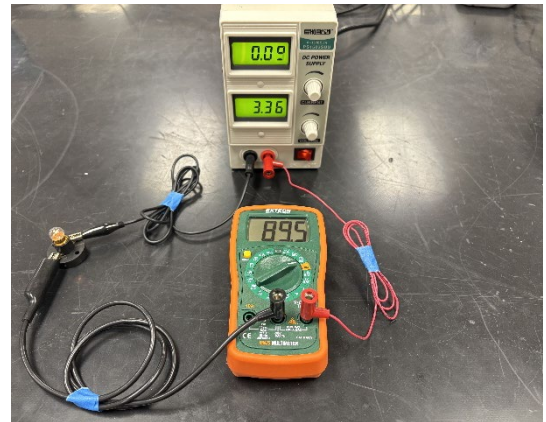
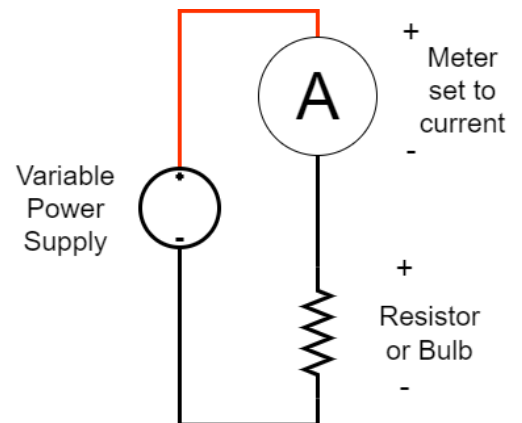

Figure 5: Power supply and Ammeter connected to the bulb for current measurement.
Figure 6: Circuit for current measurement.
- To connect in series, the power supply should connect to the positive lead of the meter. The negative lead should connect to one of the light bulb screws. The other screw terminal should connect back to the negative terminal of the power supply. It is recommended that you use some clips so you do not have to hold the multimeter leads in place to complete the circuit. When done, it should look like Figure 5. The circuit is given by Figure 6.
1. Now build the circuit shown in Figure 6 with two meters, one for current and one for voltage, and the light bulb. Be careful to check you have meters and leads all set up correctly before applying power to avoid a short circuit.